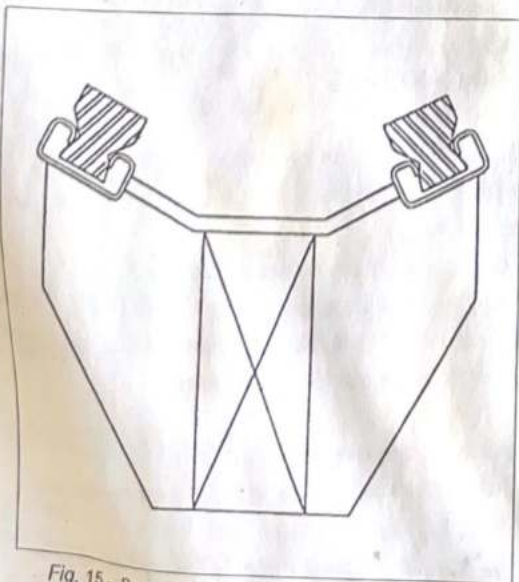

Fig. 15 - Suction pad sitting on suitable supports
- Turn the suction pad upside down and place it on suitable supports (Fig. 15).